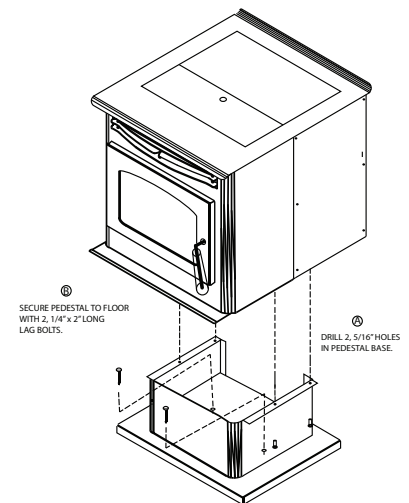

FIGURE 21
**NOTE: Installation should be in accordance with the Manufactured Home and Safety Standard (HUD), CFR 3280, Part 24** For installation in a mobile home, an outside source of combustion air must be used (see “COMBUSTION AIR SUPPLY”). The SP22 must be grounded to the steel chassis of the home with 8 Ga. copper wire using a serrated or star washer to penetrate paint or protective coating to ensure grounding. The SP22 must be securely fastened to the floor of the mobile home through the two holes in the rear of the stove using 2, 1/4” lag bolts that are long enough to go through both a hearth pad, if used, and the floor of the home. (See figure 21) Refer to “VENTING” for proper exhaust configurations.